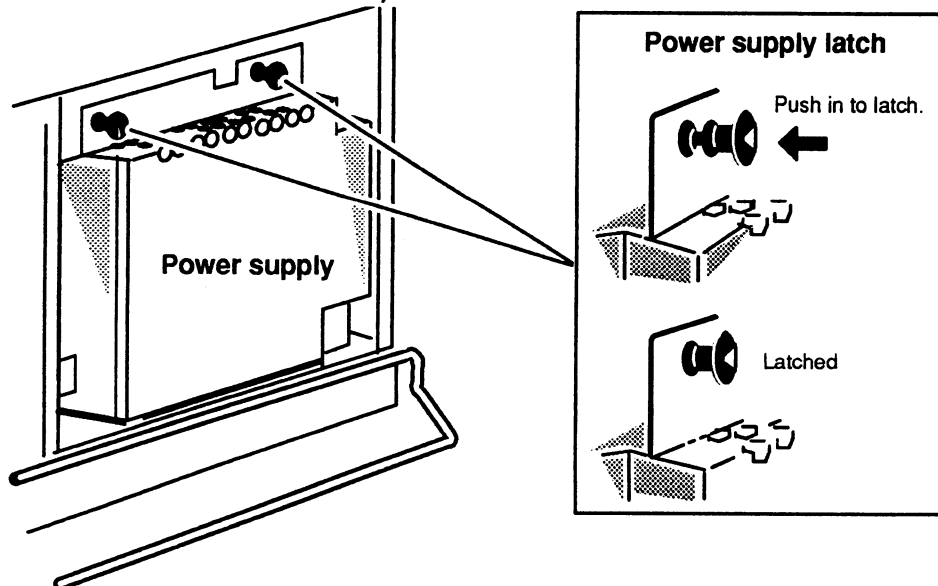

Figure 6-8 Securing the Power Supply to the Computer Unit
4. Secure the power supply to the computer unit by pushing in the two power supply latches shown in Figure 6-8.